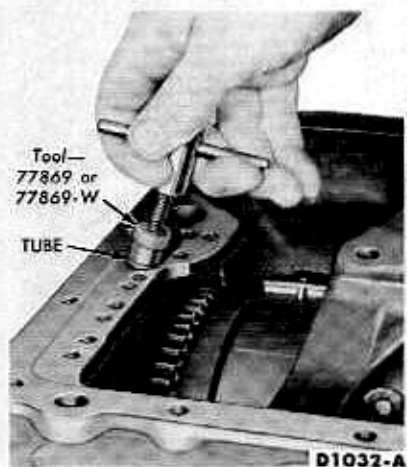

FIG. 4—Rear Pump Discharge Tube Removal
7. On the PBL transmission, install the tube extractor tool in the rear pump discharge tube (Fig. 4), and remove the tube.